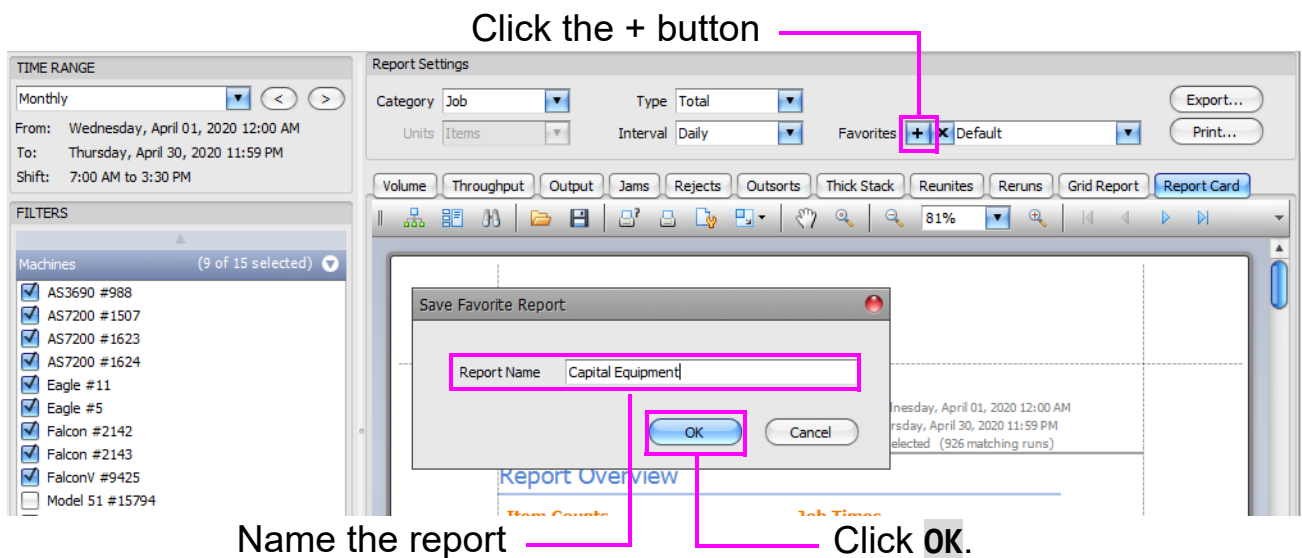

Figure 5-21: Save Favorite Report window
4. In the **Favorites** section, click the **+** button (Figure 5-21).